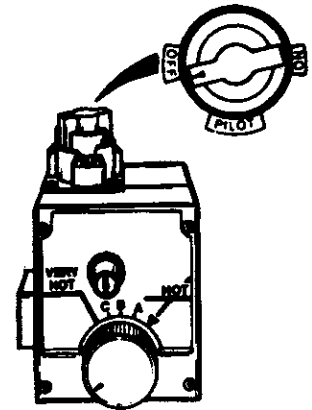
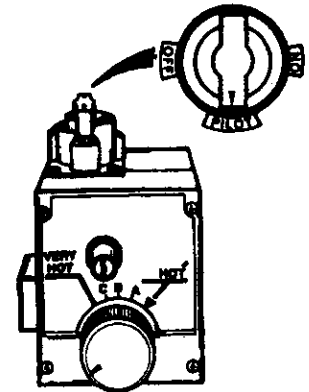
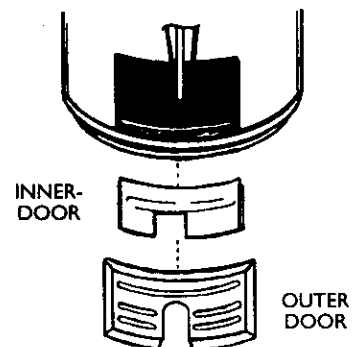

Figure 5
Figure 6
Figure 8
4. Turn gas control knob clockwise () to "OFF" position. Knob cannot be turned from "PILOT" to "OFF" unless knob is depressed slightly. **DO NOT FORCE.** (Figure 5, page 19)
5. Wait five (5) minutes to clear out any gas. If you then smell gas, STOP! Follow "B" in the safety information above on this label. If you don't smell gas, go to the next step.
6. Remove (or open) inner door located below the gas control unit. (Figure 8, page 19)
8. If you don't smell gas, turn knob on gas control counter clockwise () to "PILOT" position. (Figure 6, page 19)
9. Push in control knob all the way and hold down. Immediately light the pilot with a match. Continue to hold control knob in for about one (1) minute after the pilot is lit. Release knob and it will pop back up. Pilot should remain lit. If it goes out, repeat steps 3 through 8.
- If the pilot will not stay lit after several tries, depress and turn the gas control knob clockwise () to "OFF" and call your service technician or gas supplier. (Figure 5, page 19)
10. Replace (or close) inner door. Replace outer door if door does not cover gas control on/off knob or temperature adjustment knob. (Figure 8, page 19)
2. Turn gas control knob clockwise () to "OFF" position. Knob cannot be turned from "PILOT" to "OFF" unless knob is depressed slightly. **DO NOT FORCE.** (Figure 5)